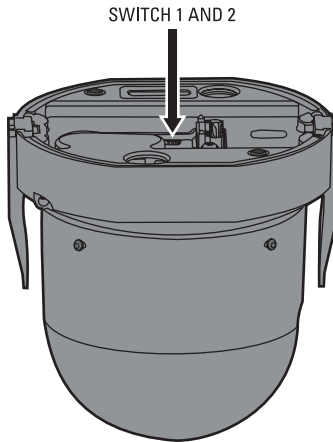

Figure 12. Setting the DIP Switches
- **View video using both analog and IP connections:** Set the DIP switches on the top of the Spectra IV dome drive (refer to Figure 12). For DIP switch settings, refer to the labels located on the top of the dome drive, or refer to *Switch Settings* on page 28.